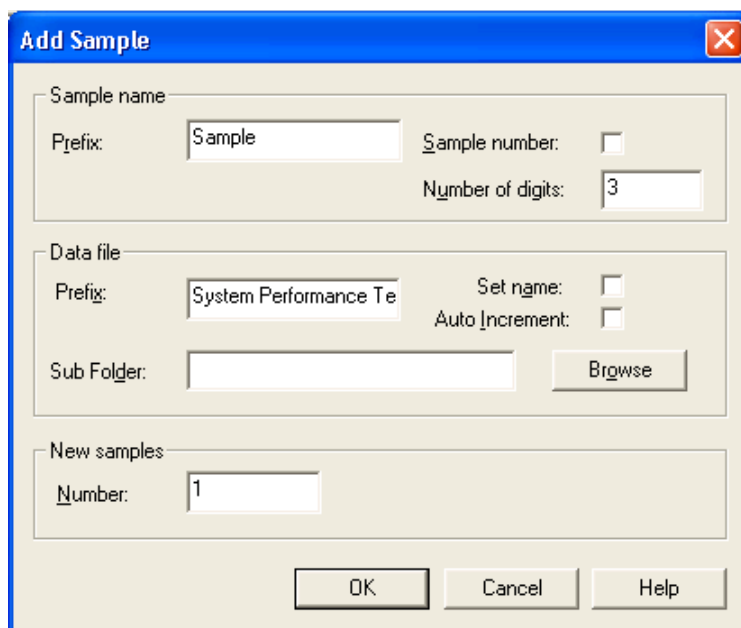

Figure 1-28 Add Sample dialog—System Performance Test
2. Build the acquisition batch, as shown in Figure 1-28.